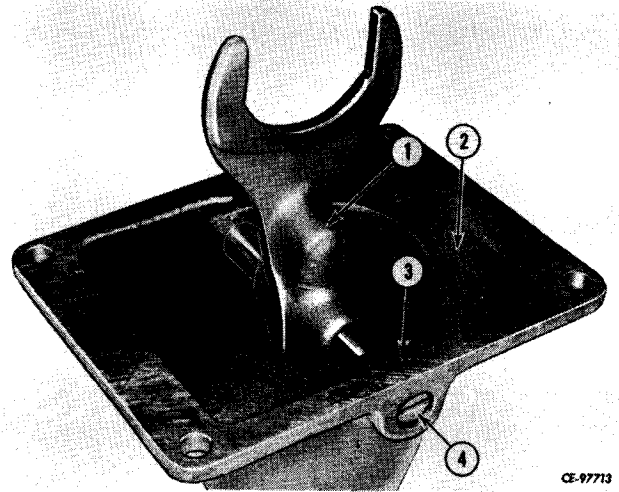

Figure 4-19
Using a suitable punch remove groove pin from bore (3, Fig. 4-19). Drive reverse shift rail (4) out through the housing (2) and shift fork (1).